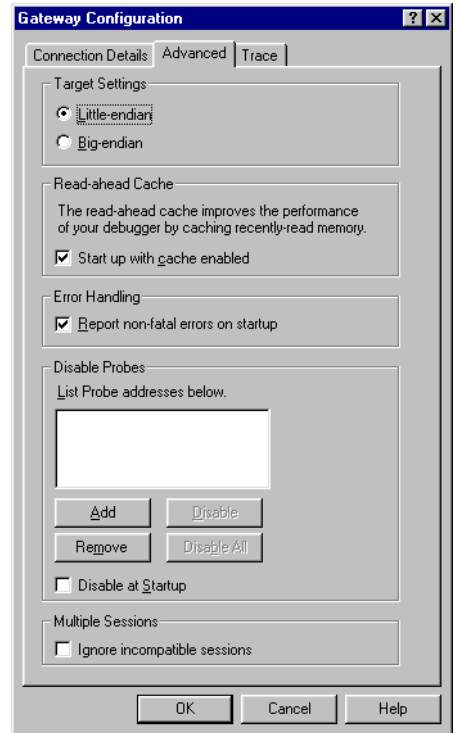

Figure B-16 Gateway Configuration dialog box, Advanced tab
8. Click on the **Advanced** tab, shown in Figure B-16 on page B-21.
- a. Click **Advanced** to display the advanced configuration tab, as shown in Figure B-16 on page B-21.